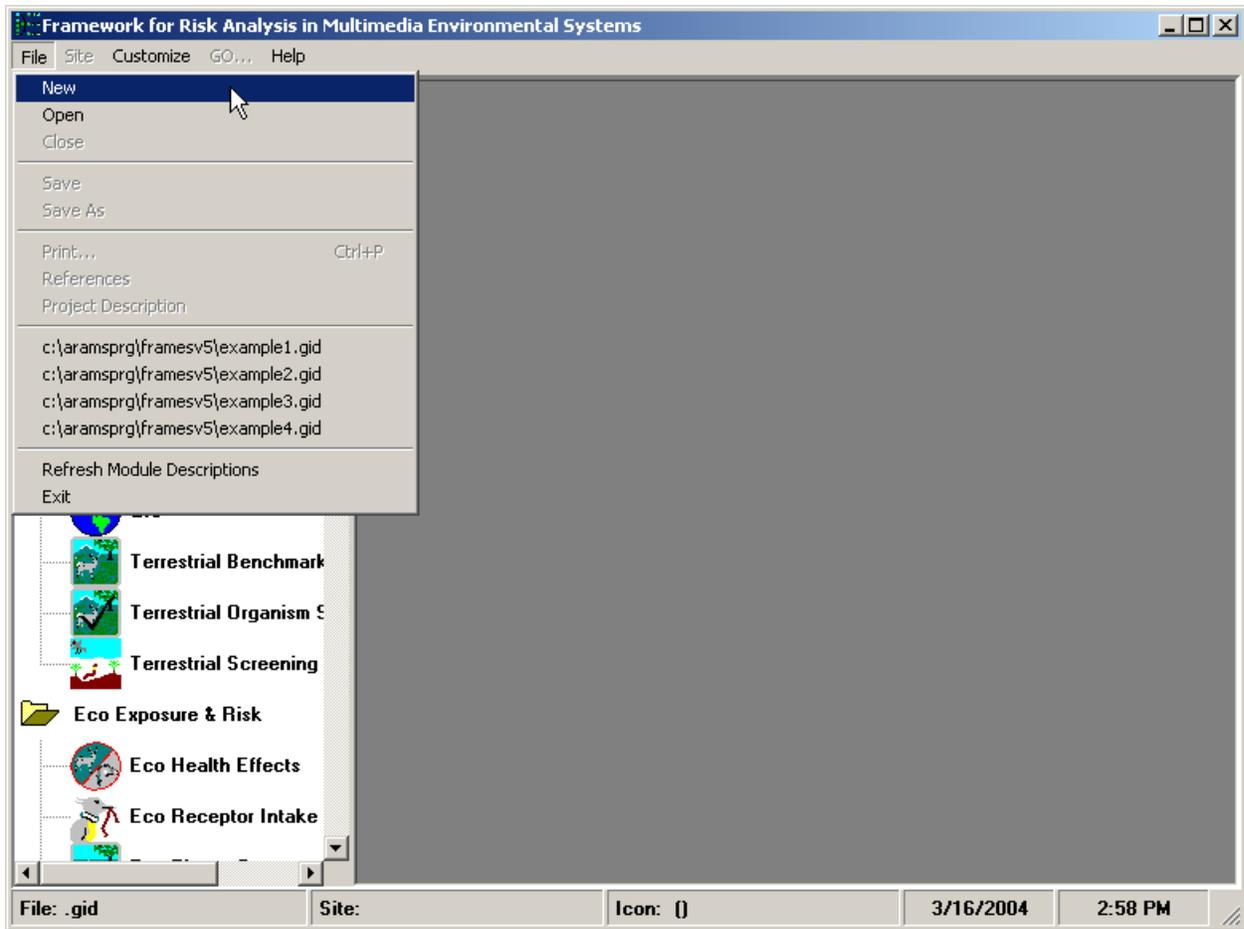
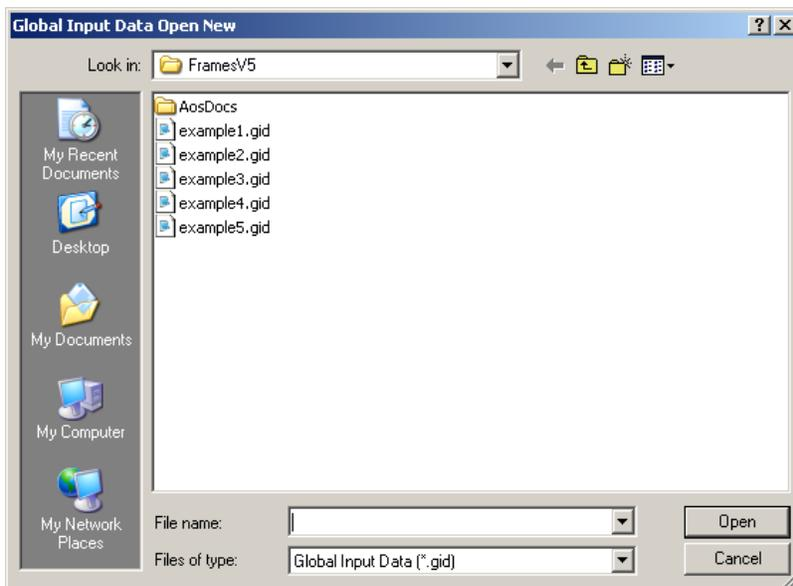
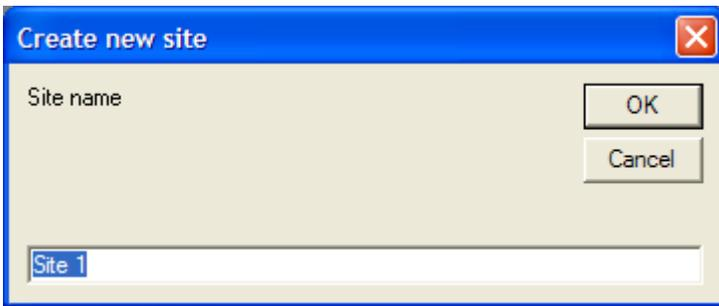

Figure 2. Opening a new file
Figure 3. Global Input Data Open New (New File Window)
Figure 4. Create New Site Screen (Input “Site name” box)
- While ARAMS/FRAMES is running, click “File” and choose “New” and a window titled “Global Input Data Open New” will appear (see Figure 2). In the “File Name” box, type the project name (e.g., “Ex6,” maximum of 8 characters) and click “Open” (see Figure 3). **Do not name the “new file” “Example6” because it will write over the existing “Example6” file that was distributed with the tutorial.** A window titled “Create New Site” will appear. Type the project site name (e.g., “Site 1”) and click “OK” (see Figure 4).